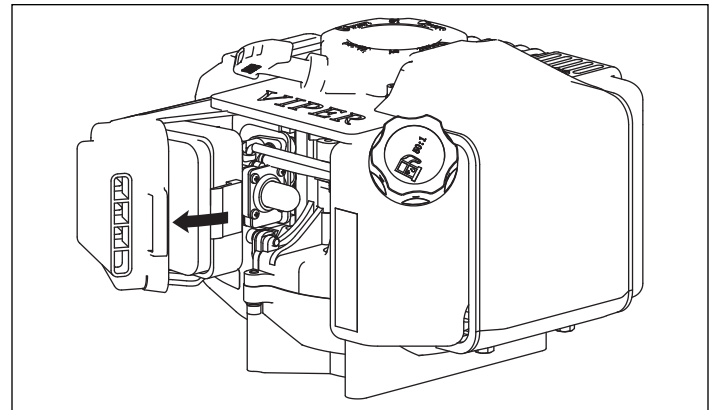

Figure 6
3. Once the latch tabs are released, remove the air filter cover by rotating the cover away from the engine. **SEE FIGURE 6.**